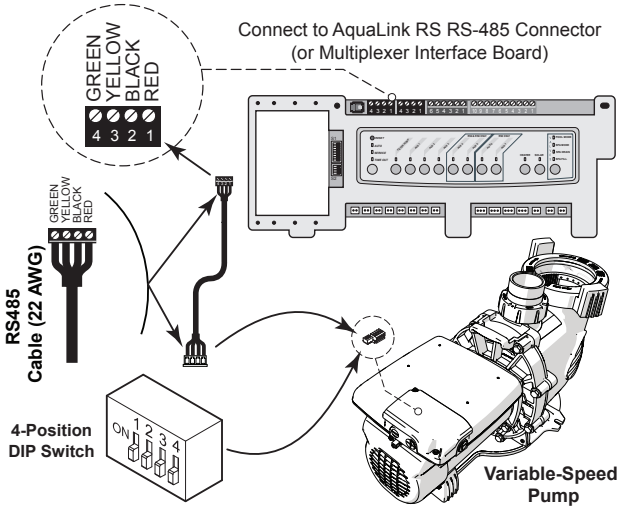

Figure 4. Wiring AquaLink RS, PDA or Z4
4. Connect the RS-485 cable from the AquaLink through the available compression fitting and route the cable through the motor drive port closest to the connector. See Figure 4.
5. Connect the other end of the cable to an RS-485 connector on the AquaLink RS (or multiplexer interface board), matching wire colors with connector positions. See Figure 4.
7. Connect the other end of the cable to the controller. Match the colors of the wires with the appropriate connector positions. See Figure 4.
1. As shown in Figures 4 and 5, the four position dip switch serves two functions: it selects the pump address, and it determines what type of controller will be used with the pump.